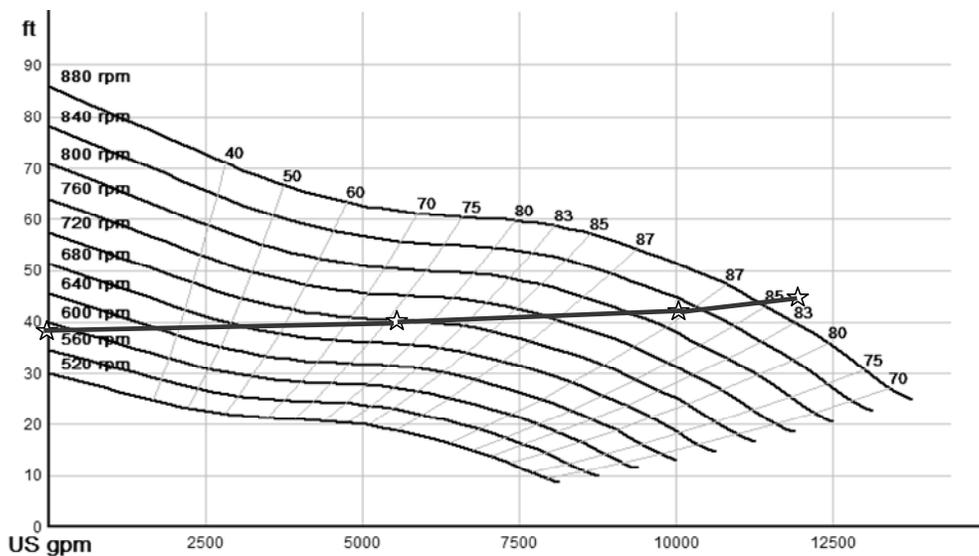

Figure 1. System curve overlain on pump curves of various RPMs. Pump curves were developed in software available from Goulds Pump.
Another common error is thinking that the affinity laws are easy to use for predicting power savings. The affinity laws for pumps that relate power, head, and flow are only useful for drawing new pump curves at various RPMs. They cannot be used, by themselves, to estimate power savings. To estimate power savings, one must overlay the system curve on the family of pump curves, as seen in Figure 1. Figure 1 illustrates several points about VFD control of pump motors that can be useful to know for automation projects.
Points from Figure 1 include:
1. Figure 1 illustrates a common irrigation district situation in which there is a static lift from the source to the discharge. In this case, it is about 40'.